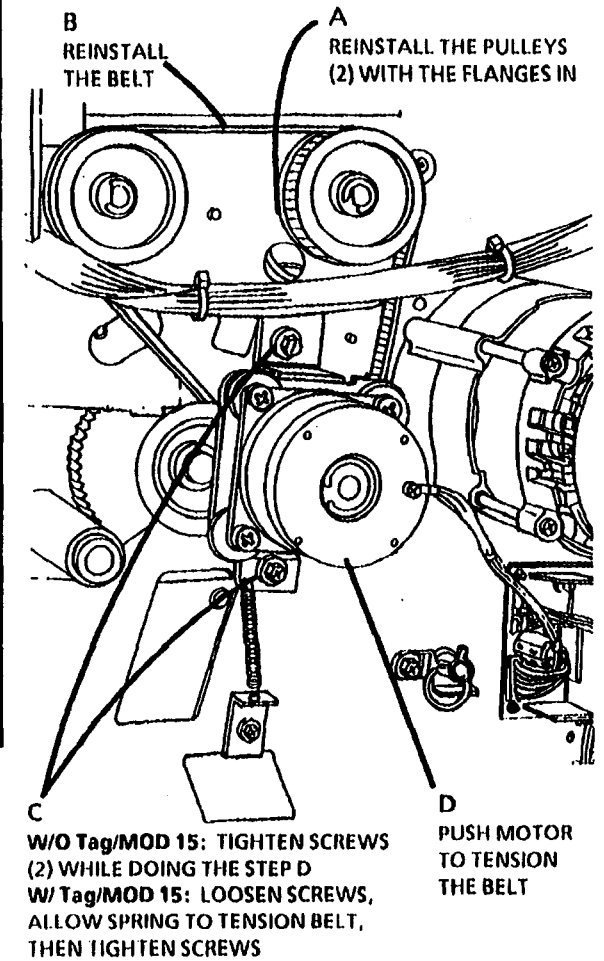

Figure 5. Reinstall the Belt
2. (Figure 5): Reinstall the Belt.